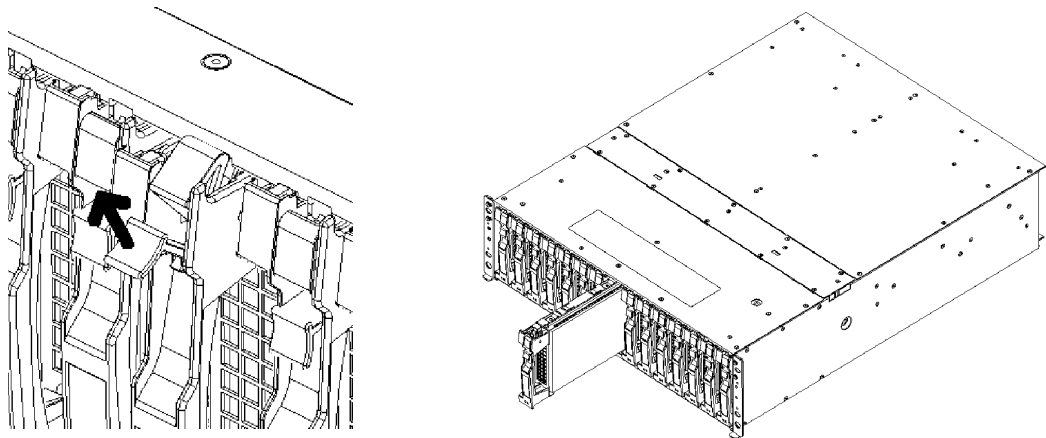

Figure 3-1. Removing a Dummy Hard Disk Drive Dummy Tray
3. Remove the dummy drive carrier from the Fibre Channel hard disk drive bay in which you are installing the new disk drive. See Figure 3-1. Pull the ejector on the dummy carrier assembly toward you to release the lock. A click is heard when the lock is released. Once the lock is released, hold the handle and pull the dummy carrier assembly out of the drive bay. Go to step 5.